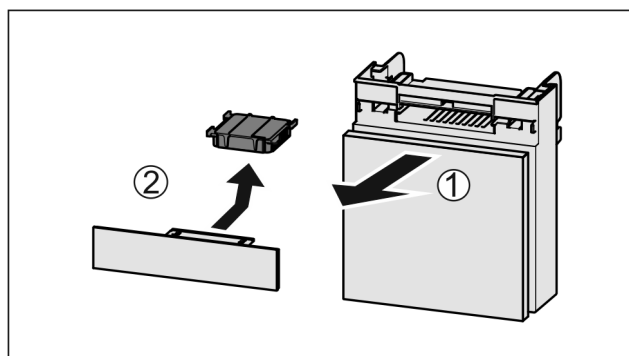

Fig. 41
- ▶ Pull out the compartment *Fig. 41 (1)*.
- ▶ Remove the carbon filter *Fig. 41 (2)*.